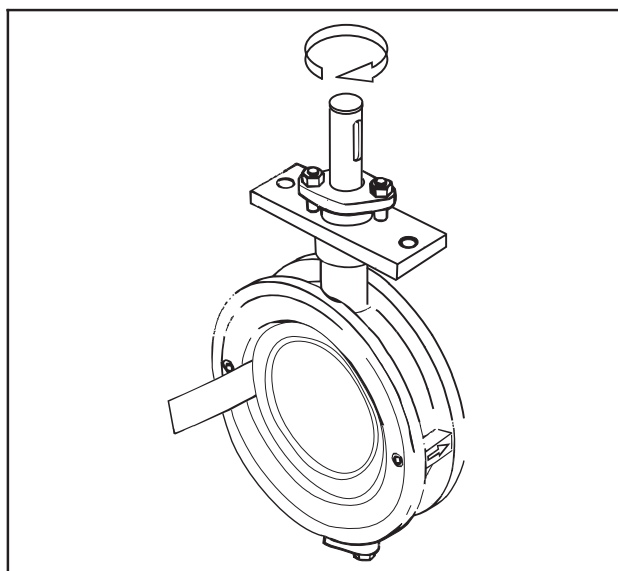

Fig. 4
The limit position screw (25) is correctly adjusted when the surface pressure almost cuts the paper strip. Place the paper strip acc. to fig. 4.